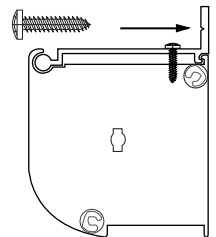

Figure 1
Drill three (3) 3/16" clearance holes in the housing hinge, one approximately 2" from each end, one approximately in the middle. Locate the holes using the groove in the hinge flange (Figure 1). Note: These hole locations may be pre-drilled from the factory.